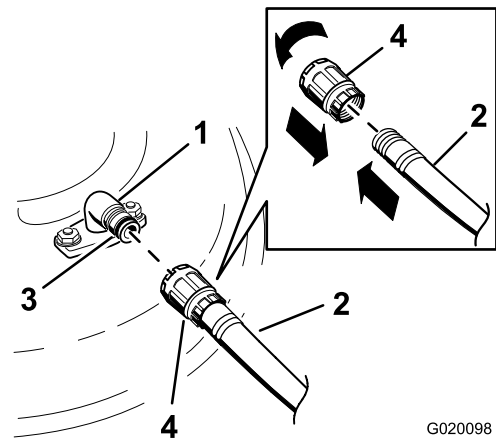

Figure 64
3. Attach the hose coupling to the end of the mower washout fitting, and turn the water on high (Figure 64).